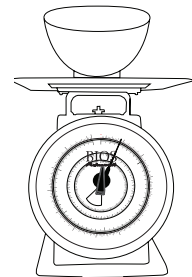

Figure 1
1. Place your first item on the stainless steel platform. (Figure 1)